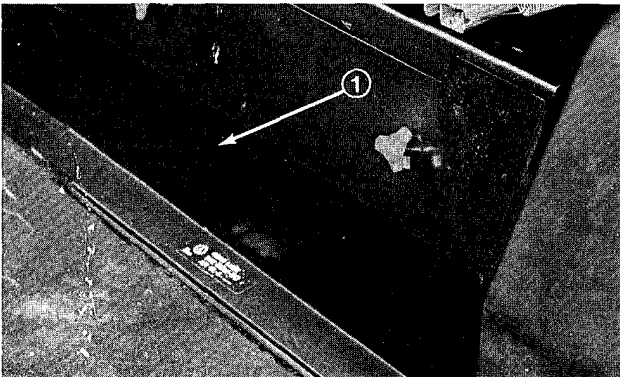

Figure 6
(Fig. 6 & 7)
2. Remove access panel (Fig. 6), in front of seat, to expose front axle / dipstick.